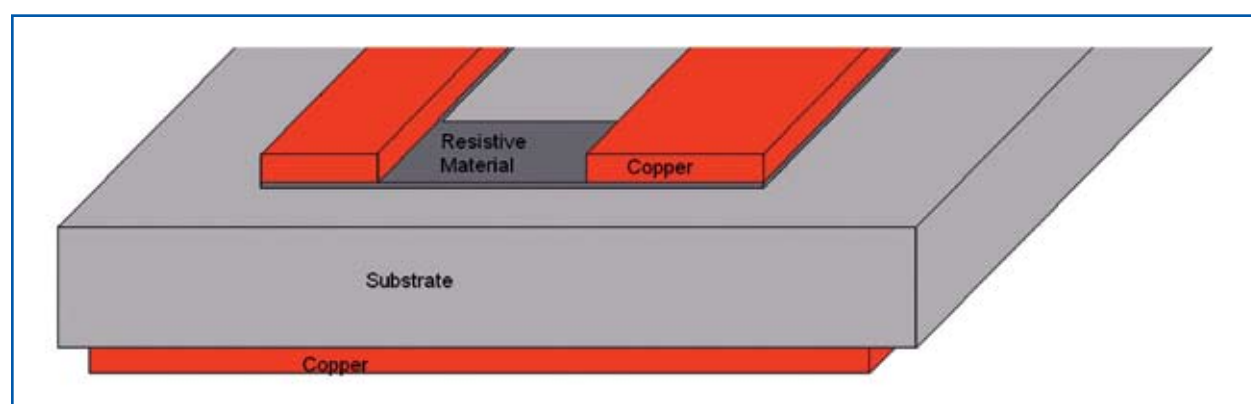

Figure 2: Simple double-sided circuit showing resistive material between two conductors
5. Remove the protective layer. A simple drawing of this technology with a resistor in the middle of two copper conductors is shown in Figure 2.